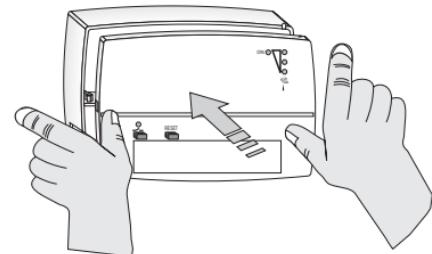

Fig. 9.i
- Push the front on to the base using both hands as shown in figure 9.i, until the catches click and lock the front to the base.
- Carefully reclose the receiver (fig. 9.i - fig. 10.i)